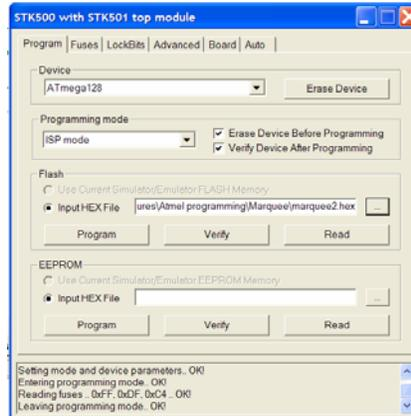

Figure 6. Program dialog box. This window allows you to navigate to the hex file to be downloaded to the microcontroller.
14. Once you have verified that the fuse settings are correct, click on the 'Program' tab, and you should see the dialog box shown in Figure 6. In the section titled, 'Flash', the 'Input Hex File' radio button should be checked and a path to the hex file corresponding to target filename should be in the path box. You can also navigate to another folder to download an alternate hex file if desired.